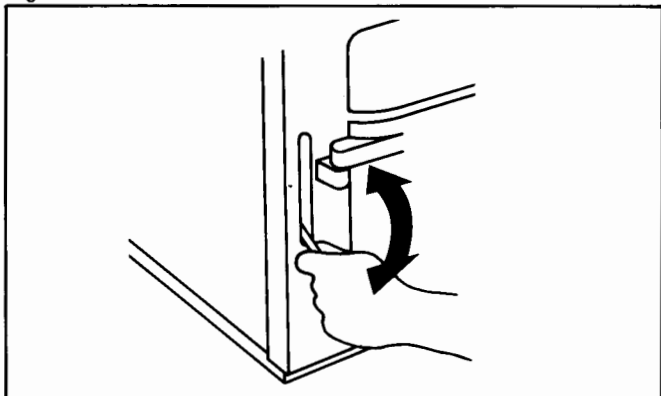

Fig. 3
- De-ash (Fig. 3) and remove clinker door (Fig. 5). Insert flat bayonet type gas poker on top of bottomgrate bars.
To de-ash, riddle the grate by agitating the riddling handle in an up and down manner about 20 times to free the grate of ash. See Fig. 3.